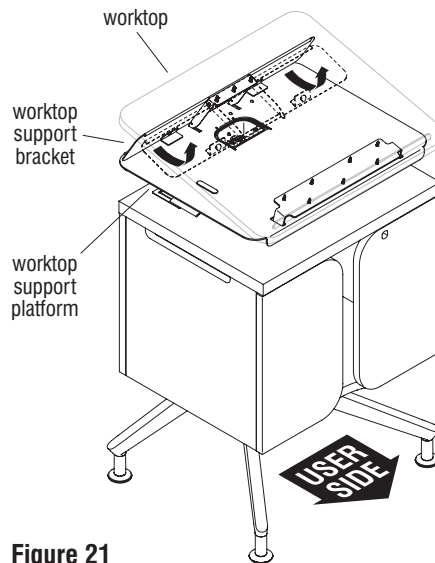

Figure 21
1. Begin mounting head cover installation at the back, non-user side of the lectern. While facing the back, lift the worktop up to disengage the worktop support bracket from the worktop support platform. Next, flip the worktop support bracket up against the underside of the worktop and continue to hold it up to gain access to the top of the mounting head (Figure 21).